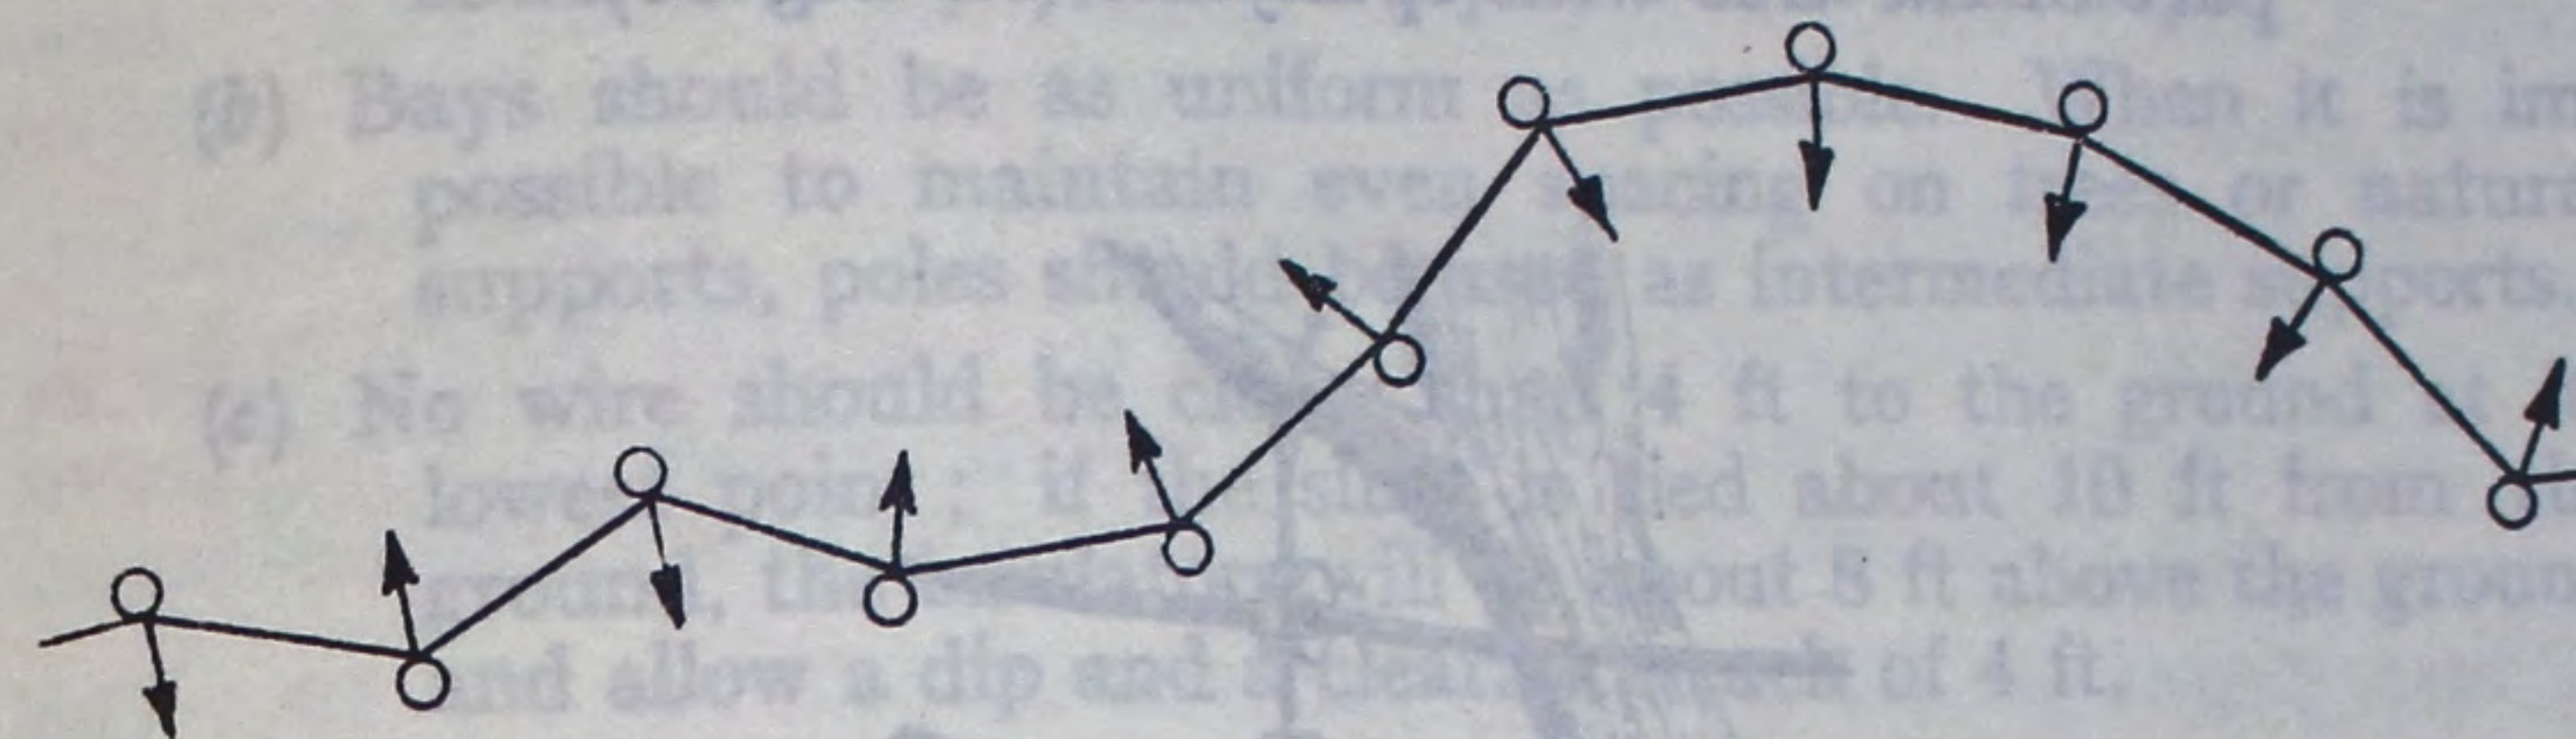

Fig 14.—Ideal tree line location
- (e) Where possible trees should be chosen which are uniformly spaced and alternately offset from a centre line, so as to give a pull-away effect at each tree (see Fig. 14).